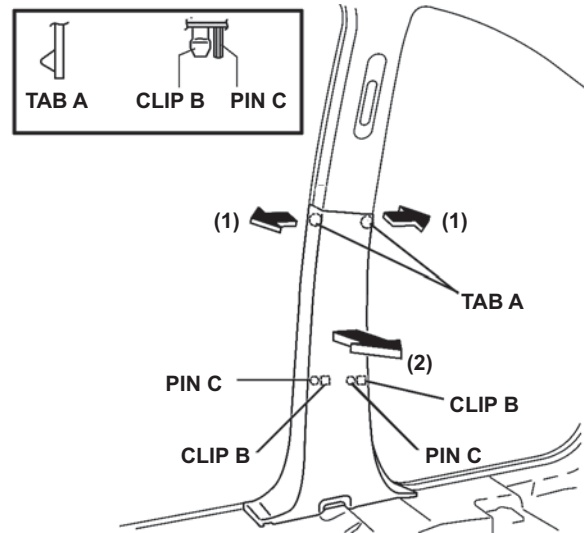

FIGURE 36
- 2.) PULL THE B-PILLAR LOWER TRIM IN THE DIRECTION OF ARROW (1) AND (2). DETACH TABS A, CLIPS B AND PINS C. (SEE FIGURE 36)
- 3.) REMOVE THE B-PILLAR LOWER TRIM. (SEE FIGURE 36)